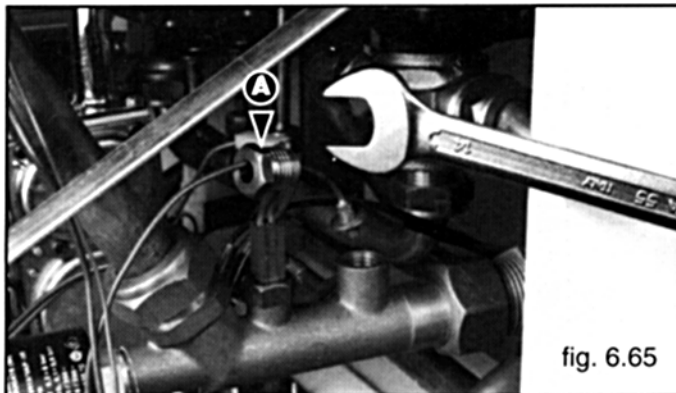

fig. 6.65
- 4 Release coupling "A" using a 14 mm open ended (see fig.6.65);